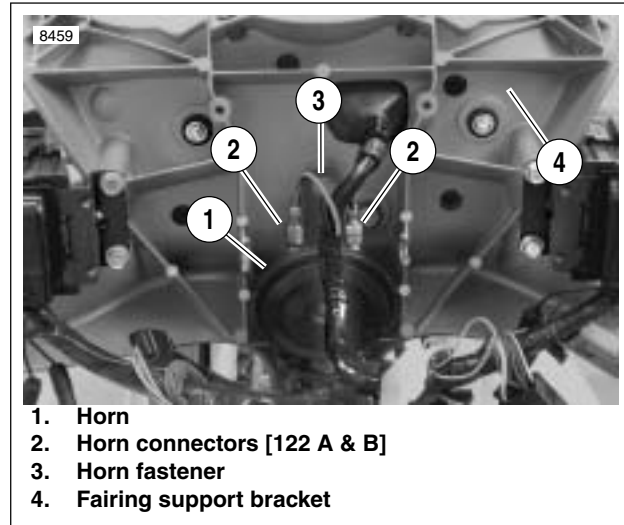
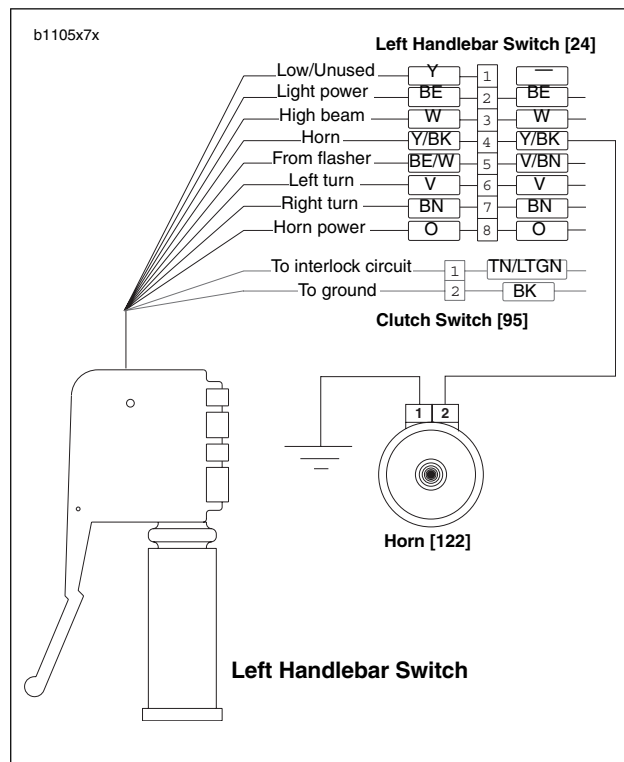

Figure 7-66. Horn Assembly
Figure 7-67. Horn Wiring
4. See Figure 7-66. Remove fastener (3).
5. Remove horn (1) from fairing support bracket (4).
6. See Figure 7-67. Detach Y/BK power wire and BK ground wire from terminal clips on horn.
1. See Figure 7-67. Connect Y/BK power wire and BK ground wire to terminal clips on horn.
2. See Figure 7-66. Attach horn (1) to fairing support bracket (4) using fastener (3). Tighten to 72-96 **in-lbs** (8.1-10.8 Nm).
- a. See Figure 7-67. Remove Y/BK power and BK ground wires from terminal clips.